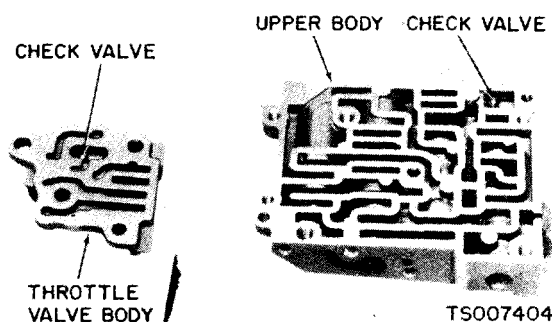

Figure 7-16. Check Valve Locations.
(2) Place the check valve in the upper body as shown in figure 7-16. Then, position the separator plate on the body.